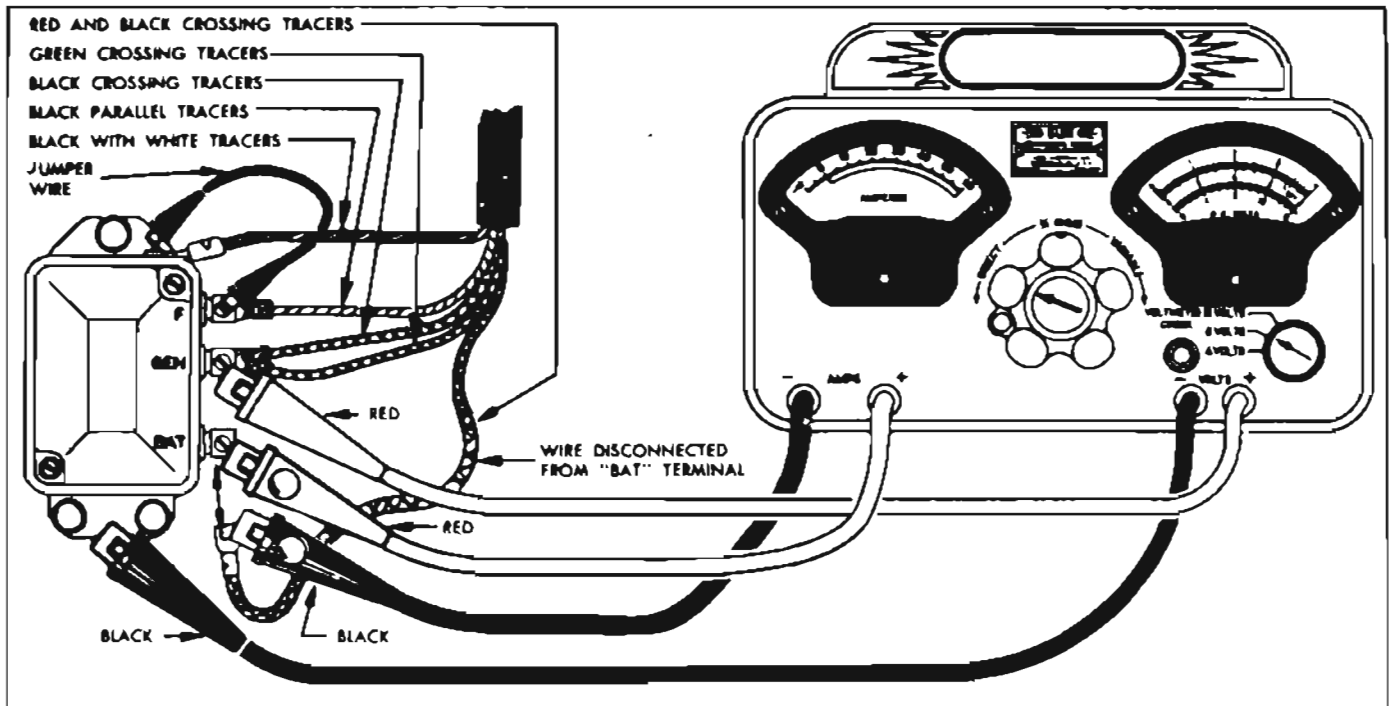

Figure 10-18—Cutout Relay Test Connections—Sun Volts
3. Depress the release button on the Control Knob of Volts Ampere Tester and rotate knob counterclockwise to the stop in "DIRECT" position. Turn voltmeter Selector Switch to the "8 VOLT" position. See figure 10-18.
4. With engine stopped, disconnect wire from regulator terminal marked "BAT", connect the black ammeter test clip to the disconnected wire, and connect the red test clip to the regulator "BAT" terminal. See figure 10-18.
5. Connect the red voltmeter test clip to the "GEN" terminal of regulator and connect the black voltmeter test clip to ground on base plate of regulator. See figure 10-18.